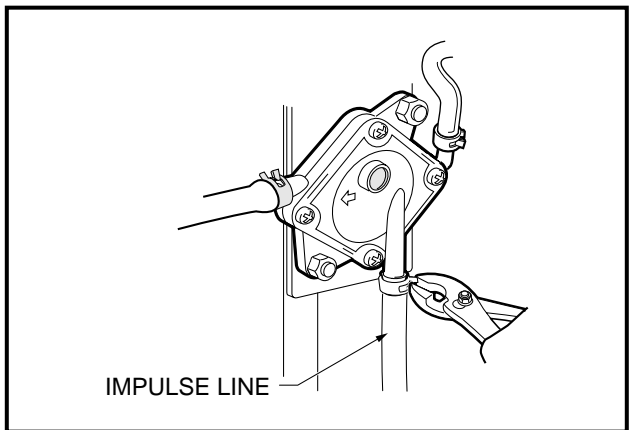

Figure 16-12 Impulse Line
- 3.3. Disconnect impulse line from fuel pump (**Figure 16-12, Page 16-8**).